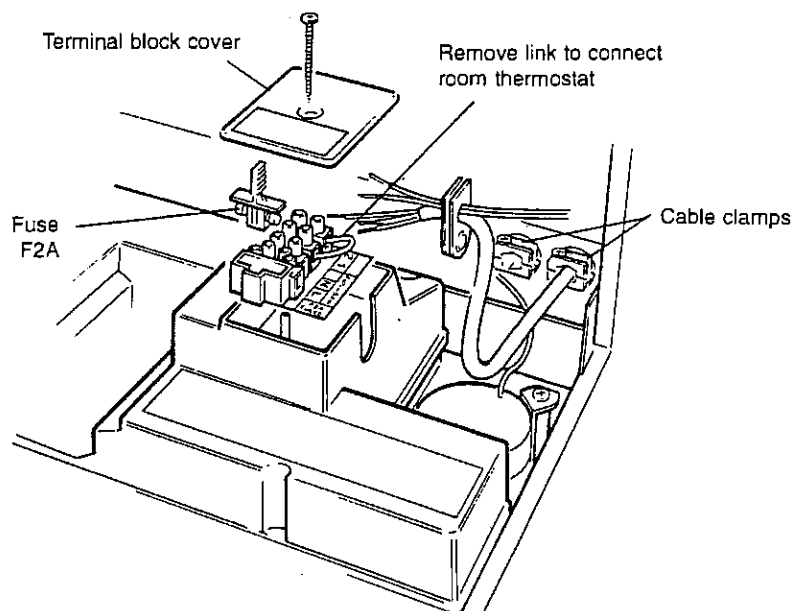

Fig. 13
4.8 CONNECT THE MAINS SUPPLY - Fig. 13
2. Remove the screw securing the terminal block cover from the back of the control box (see Fig. 13). Pass the mains supply cable through the cable clamp and connect as follows:- Brown to L, Blue to N and Green/Yellow to \perp . Ensure correct polarity.